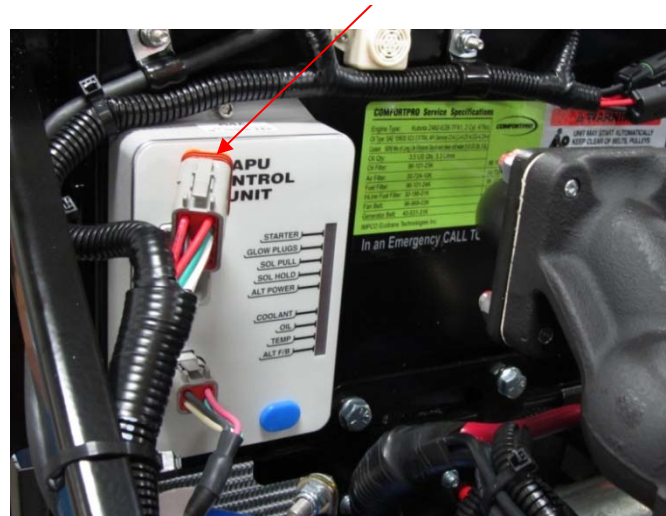

Figure 1
- Disconnect the 12 pin connector from the APU Controller (Figure 1)